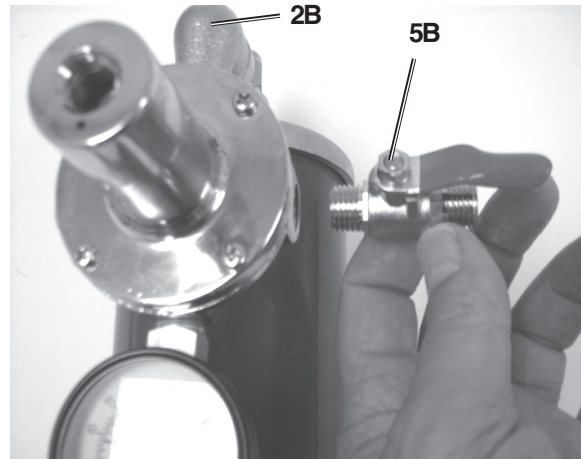

Figure 3
2. Thread in the Air Valve (5B) into the Air Regulator Assembly. See Figure 3.